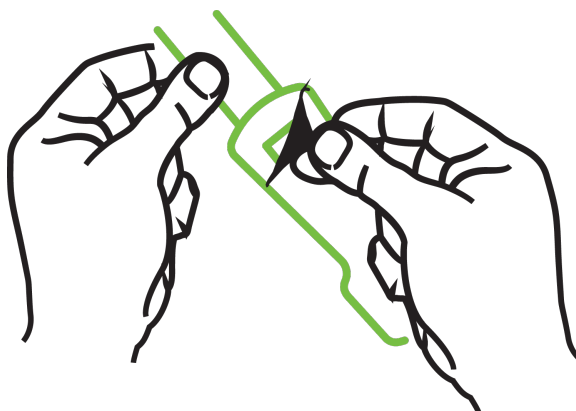

Figure 13-10: Removing protective liner from sensor
2. Remove and discard the protective liner from the sensor (Figure 13-10 on page 225).